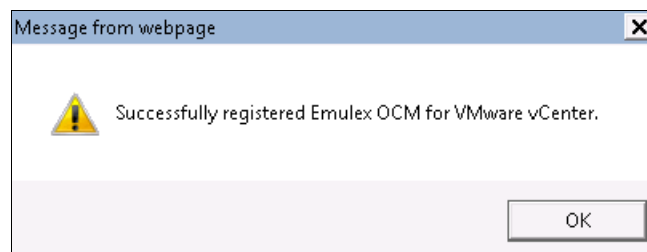

Figure 7-46 Registration is successful
11. When a message indicates that the registration was successful (Figure 7-46), click **OK**. If the registration is not successful, check the user name and server names that you used.